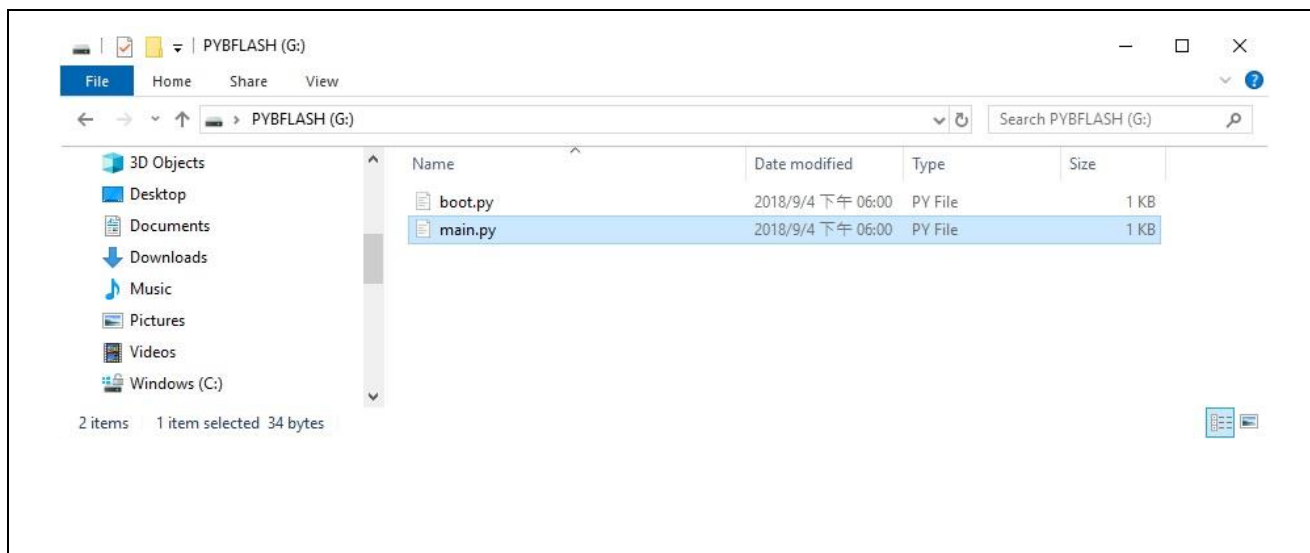

Figure 3-5 PYBFLASH Disk
2. Enable USB mass storage mode. The firmware will export a PYBFLASH disk (Figure 3-5).